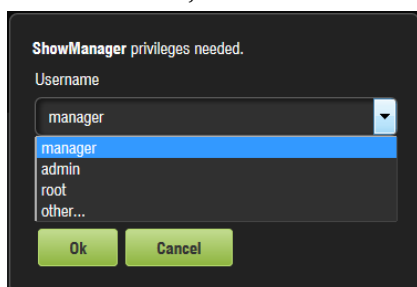

Figure 9-3 Selecting Privileges
2. Click on the **Revert** button (see Figure 9-3).